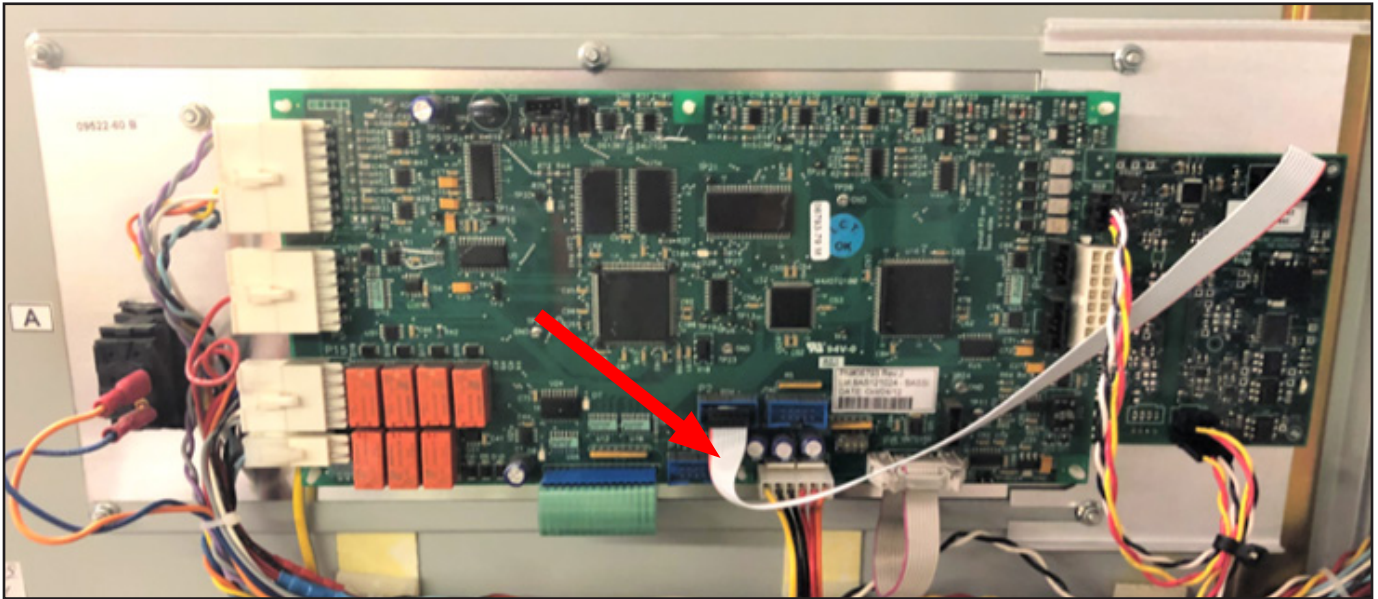

Figure 8 CAN Board Connected to the 5VDC Supply at Port P2 on the Channel A of DVS100/DVS150 Control Board with the Ribbon Cable.
5. Connect the DVS100/DVS150 CAN board ribbon cable connector to port P2 on the Channel A of DVS100/DVS150 control board (Figure 8).